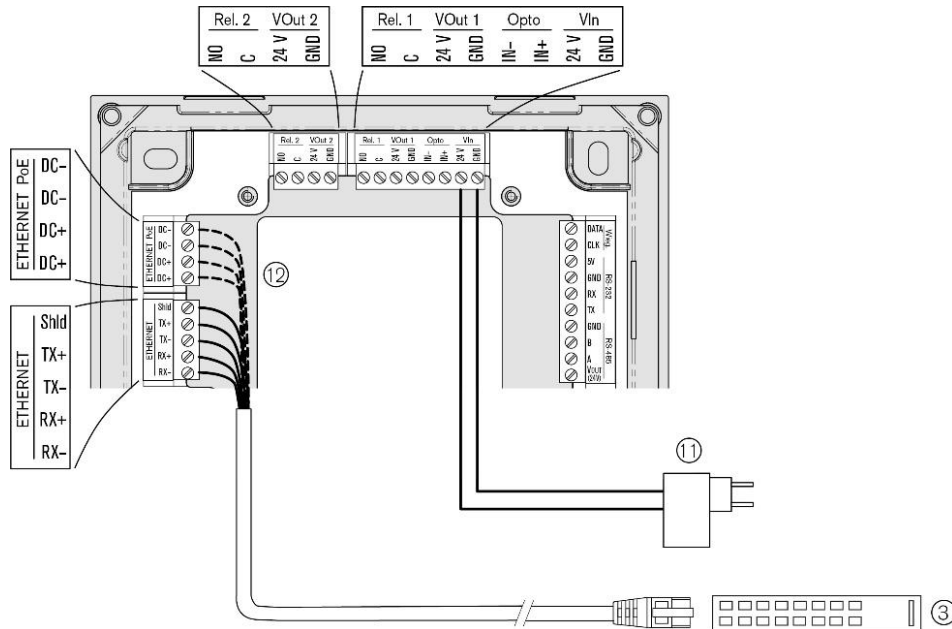

Figure 4.3 – Connection of the power supply
1. See (11) - Via a separate power supply (LPS and SELV - Limited Power Source and Safety Extra-Low Voltage)
- Connect the wires of the power supply connection cable to the "Vin" screw terminals as shown in Figure 4.3.
- Plug the power supply (11) into the power outlet.
2. See (12) - Via Power over Ethernet (PoE)